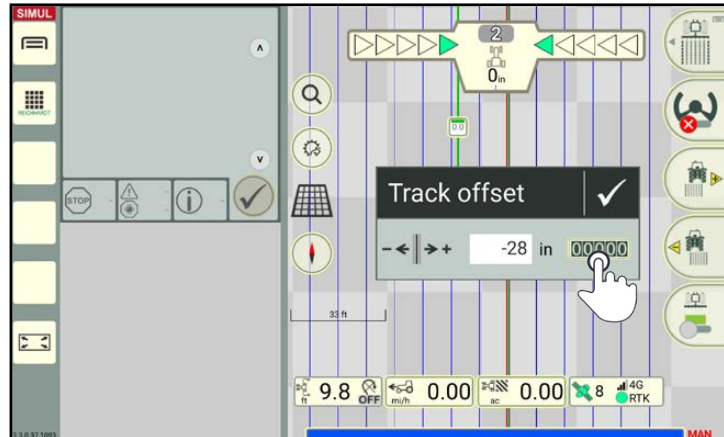

Fig. 167: Resetting the track offset
2. Tap the reset button (000000) to reset the track offset (see Fig. 167).